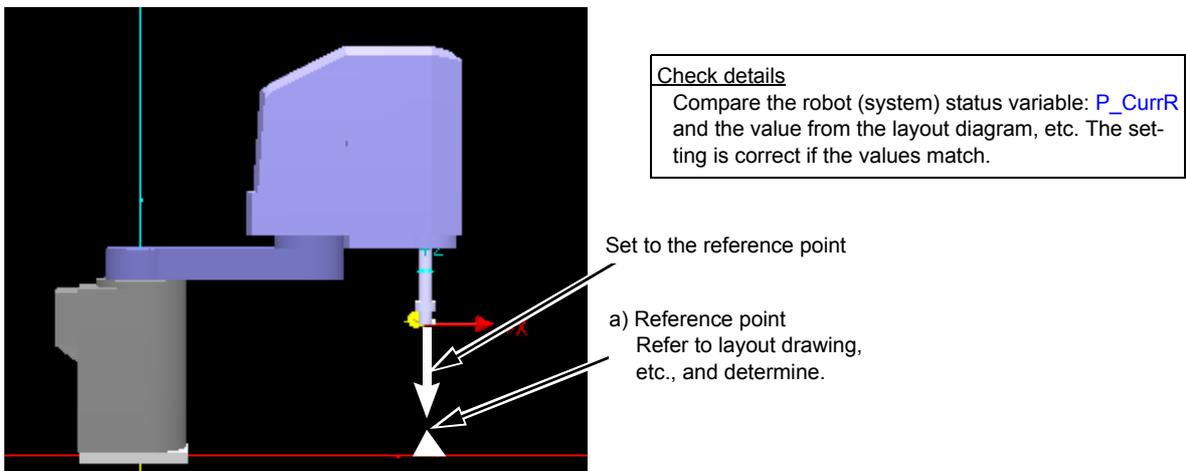

Fig.5-26: Checking the setting for calibration between robots
- 1) Looking at the system layout drawing, etc., set one reference point for each robot. (Fig. 5-26 a) (Hereinafter, reference point)